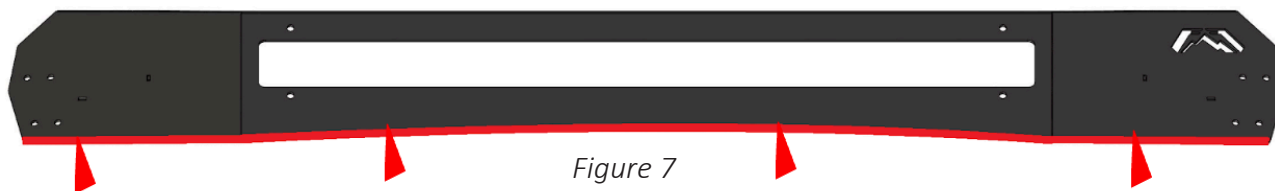

Figure 7
7. Place the provided rubber edge trim 61723 along the base of the visor weldment 23427. Figure 7.